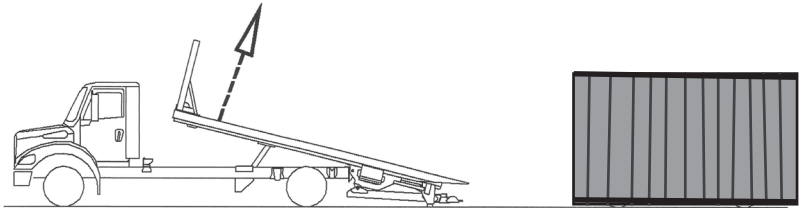

Figure 3.7
- (d) Tilt the carrier until the rear stabilizer contacts the ground. See Figure 3.7.